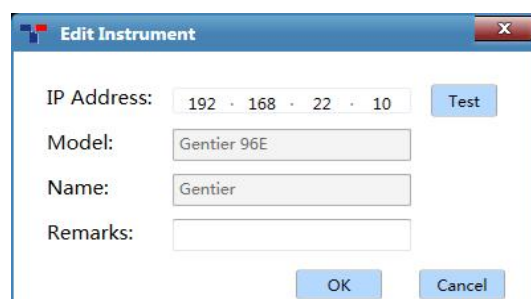

Figure D-3.2b. Instrument Management Interface - Edit Instrument Window
- b. Click < **Edit** > and the Edit Instrument window will be automatically popped up; user can change the remarks of instrument in the **Remarks** input box, as shown in figure D-3.2b.